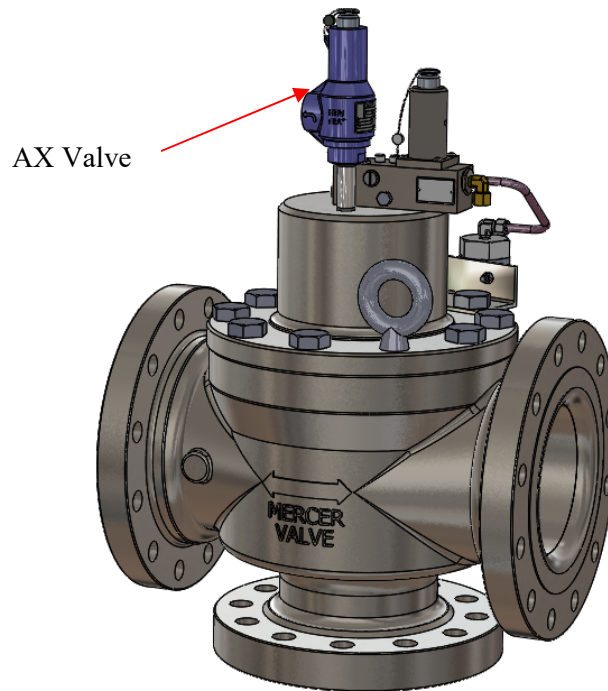

Figure 4: Modulating POPRV with AX valve
To ensure that the entire dome pressure of the main valve is able to be relieved properly, Mercer Valve adds an **auxiliary (AX) valve** to the dome area on gas modulating pilots with full bore orifice sizes 4" and larger and with API orifice sizes N and larger. See Figure 4. The AX valve is designed as a fail-safe valve and will not start to open unless the modulating pilot has not relieved